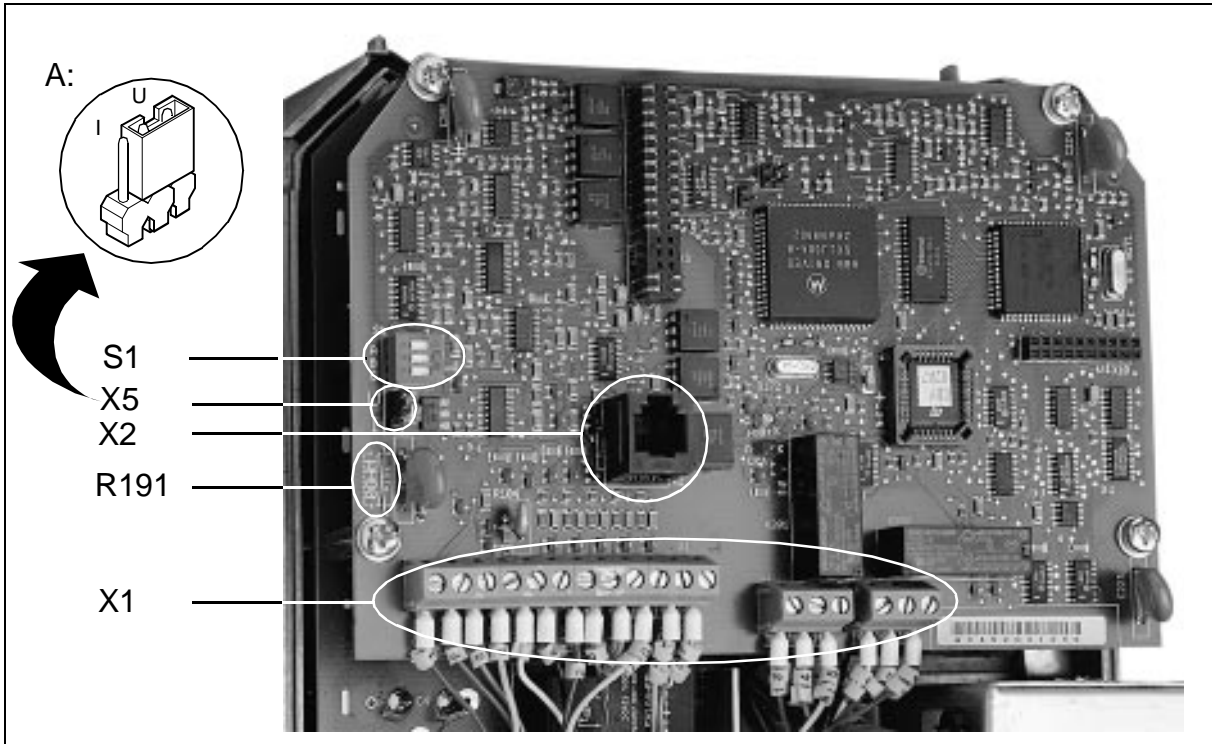

Figure 4-1 Control Card
The analogue input signal is selected with jumper X5 as shown in figure 4-1 enlargement A: I = current 0(4) to 20 mA and U = voltage 0(2) to 10 V.
1) Refer to figure 4-1 "Control Card" on page 24 for voltage/current reference selection.